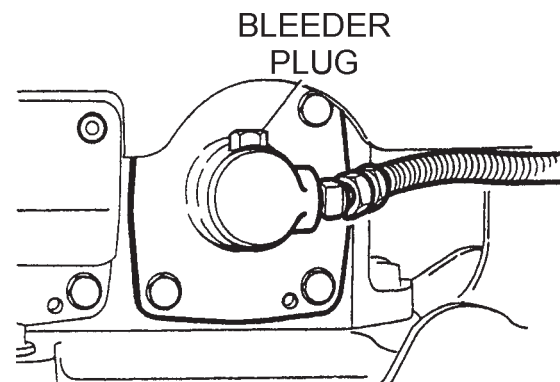

Figure 23. Bleeder Plug
1. Check hydraulic oil in every 100 hours of operation. With handle bar positioned vertically (storage position), remove breather plug (Figure 23) off the top of hydraulic pump and check for proper oil level.
5. After filling tank, temporarily install cover. Loosen bleeder plug located at the top of the cylinders on side of vibrator (Figure 23). Air remaining in the circuit will be forced out of the bleeder plug.